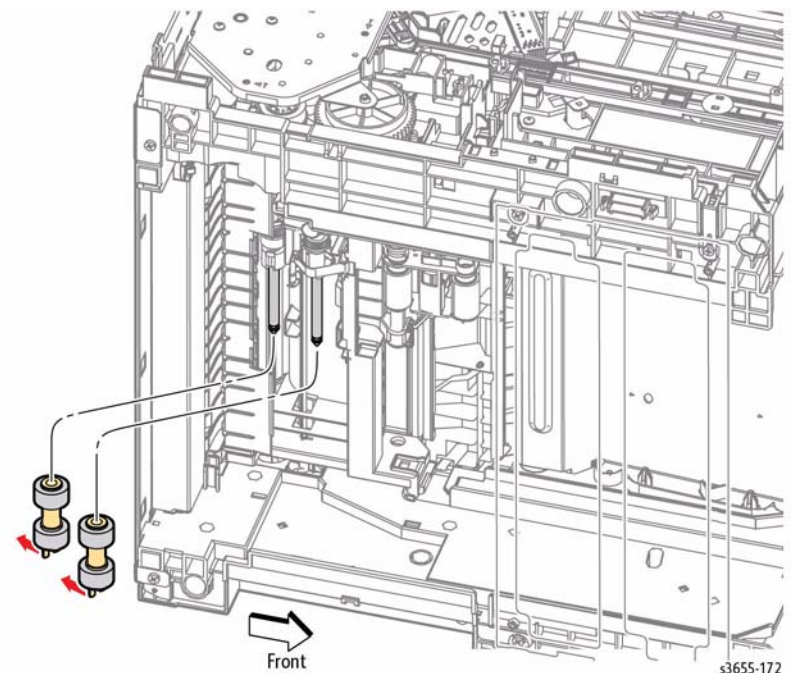

Figure 1 Remove the Feed and Nudger Rollers
2. Refer to Figure 1 to locate and release the clips that secure the Feed and Nudger Rollers to the shafts.